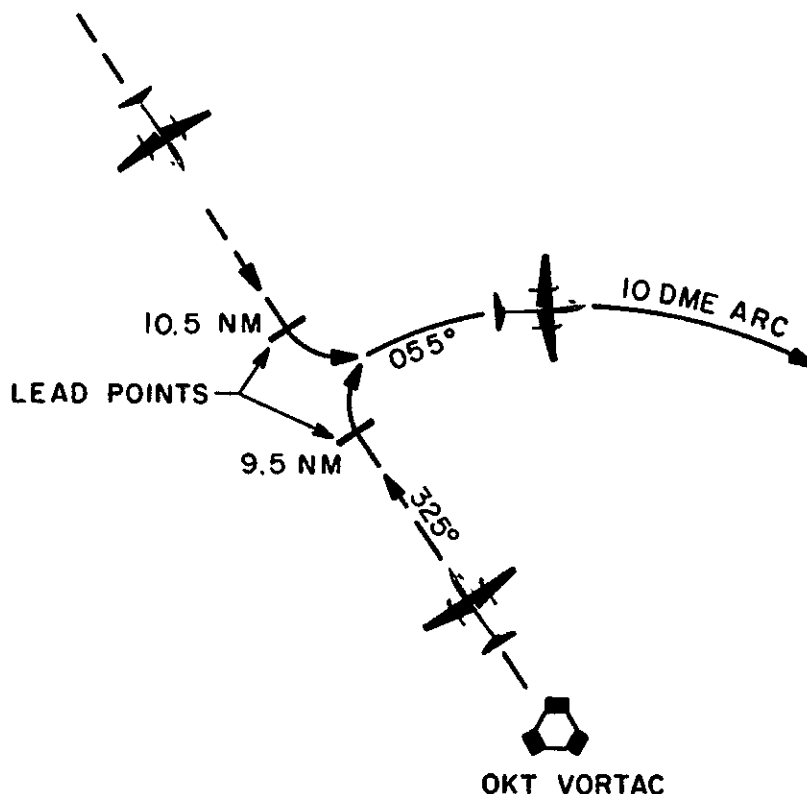

FIGURE 1. DME ARC INTERCEPTION
4. DME ARC INTERCEPTION. A DME arc interception of approximately 90° may be required when flying on a radial either inbound toward or outbound from a facility (Figure 1).
Referring to Figure 1, follow these steps to intercept a 10 DME arc when outbound on a radial.
Example (see Figure 1):